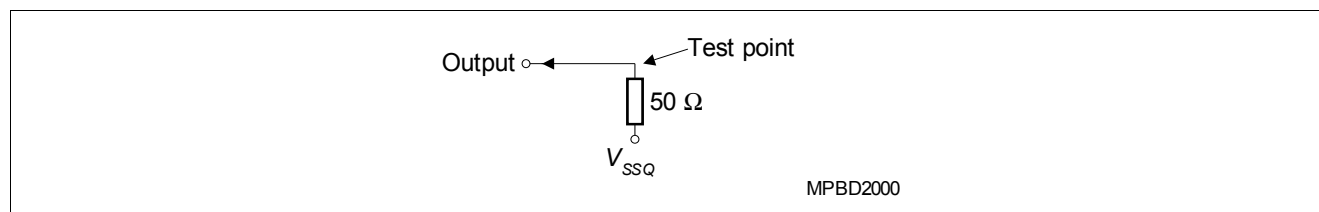

Figure 53 Pull-down slew rate test load
- 7) Pull-down slew rate is measured under the test conditions shown in Figure 53.